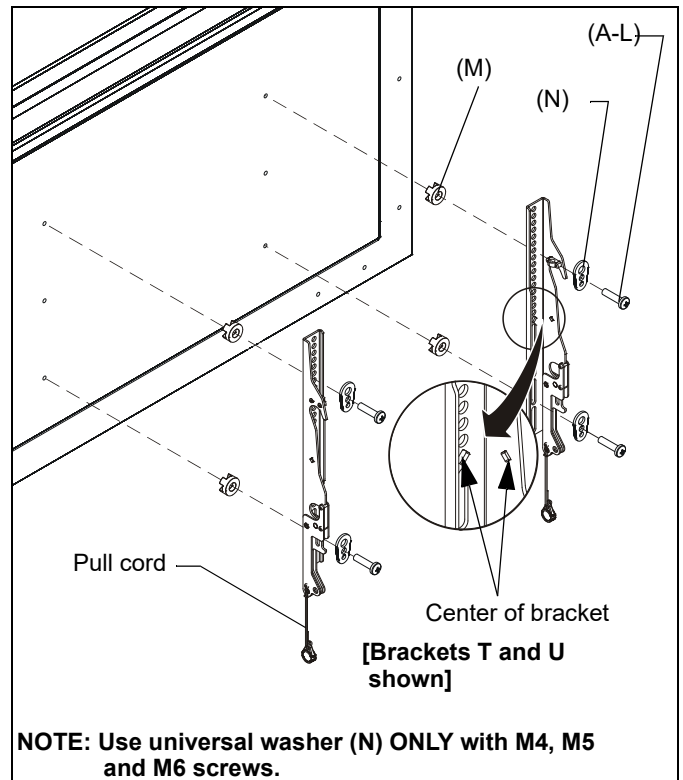

Figure 6
- Align the center of the bracket (T and U) with center of screen. (See Figure 6)
- Select correct screws, nesting spacers (if necessary) and universal washers (if required) from the hardware bag (A-N) and attach brackets to back of screen. (See Figure 6)